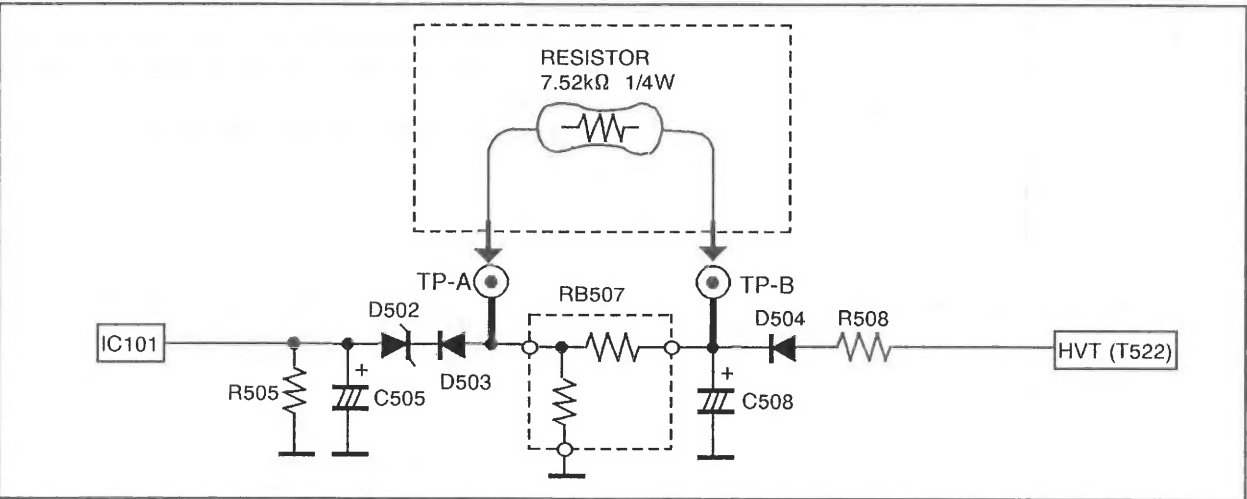

Fig. 2
- (1) Make sure that the power SW is at OFF.
- (2) As shown in Fig. 2, set the resistor 7.52kΩ 1/4W (between TP-A and TP-B).
- (3) Turn the power SW ON.
- (4) Make sure that the screen picture disappears.
- (5) Turn the power SW OFF.
- (6) Remove the resistor 7.52kΩ 1/4W from RB507 (between TP-A and TP-B).